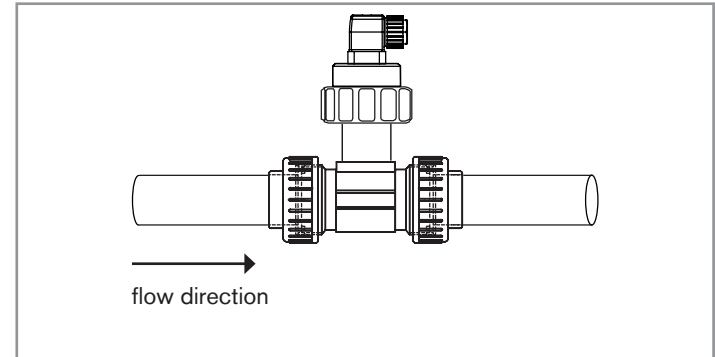
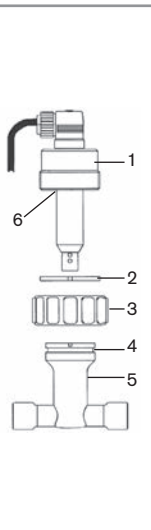

Fig. 4: Mounting position of the fitting-device system in the pipe
Fig. 5: Installation of the 8220 on the S020 fitting
The device can be installed on a pipe using a fitting type S020 (see Fig. 4 et Fig. 5).
- Install the fitting (mark 5) on the pipe acc. to the Operating Instructions of the fitting used and acc. to the Fig. 4.